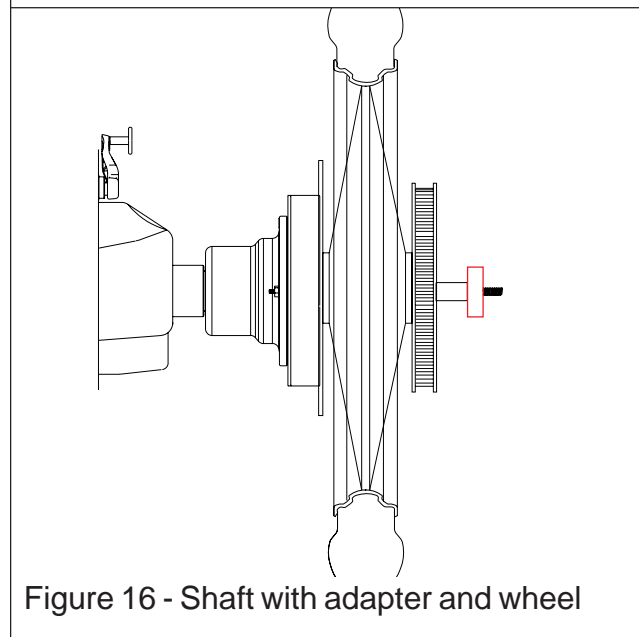

Figure 16 - Shaft with adapter and wheel
2. Spin shaft with wheel only - Figure 16